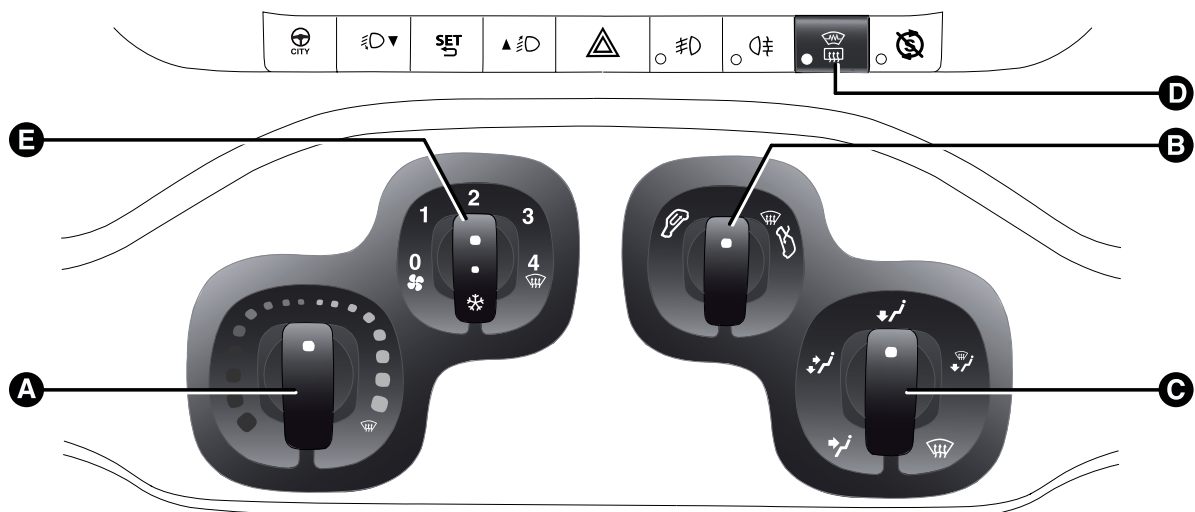

fig. 27
A Air temperature knob (red=hot/blue=cold)fig. 27
B Air recirculation knob fig. 27
C Air distribution knob fig. 27
D Heated rear window, folding mirror/heated windscreen (for versions/markets, where available) activation/deactivation button.fig. 27.
E Fan speed and climate control system activation/deactivation knob fig. 27 (for versions/markets, where provided). Press the knob to activate the climate control system; the LED on the knob switches on. This enables rapid cooling of the passenger compartment. .
- ☐ turn knob A fig. 27 to the blue section;
- ☐ turn knob A fig. 27 to the right to increase the temperature;
- ☐ turn knob A fig. 27 to the red section;